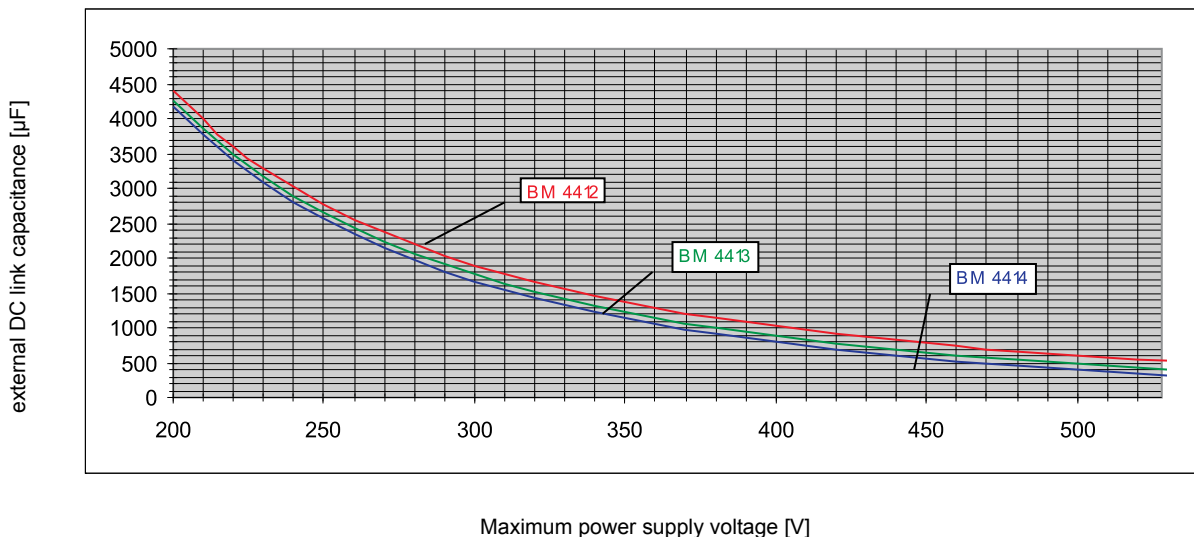

Figure 33: Maximum external DC link capacitance BM441X
DC link capacitance (external), permitted	Refer to ▶Figure 33◀ on page 67
- 11) The specified value is valid only, if no additional DC link capacitance is connected to the DC link terminals. Refer to Power on switching frequency / DC link charging on page 231 and Figure 33 on page 67.